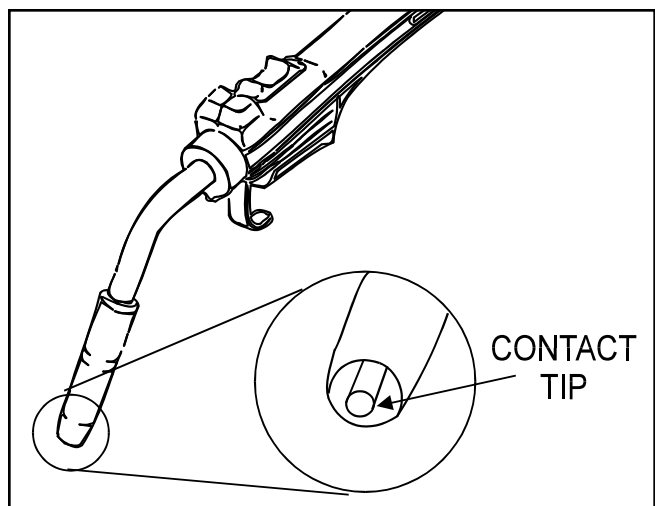

FIGURE A.8 - Contact Tip and Electrode Connections
2. For other wire sizes, use the following procedure for contact tip and gas nozzle installation. See Figure A.8.